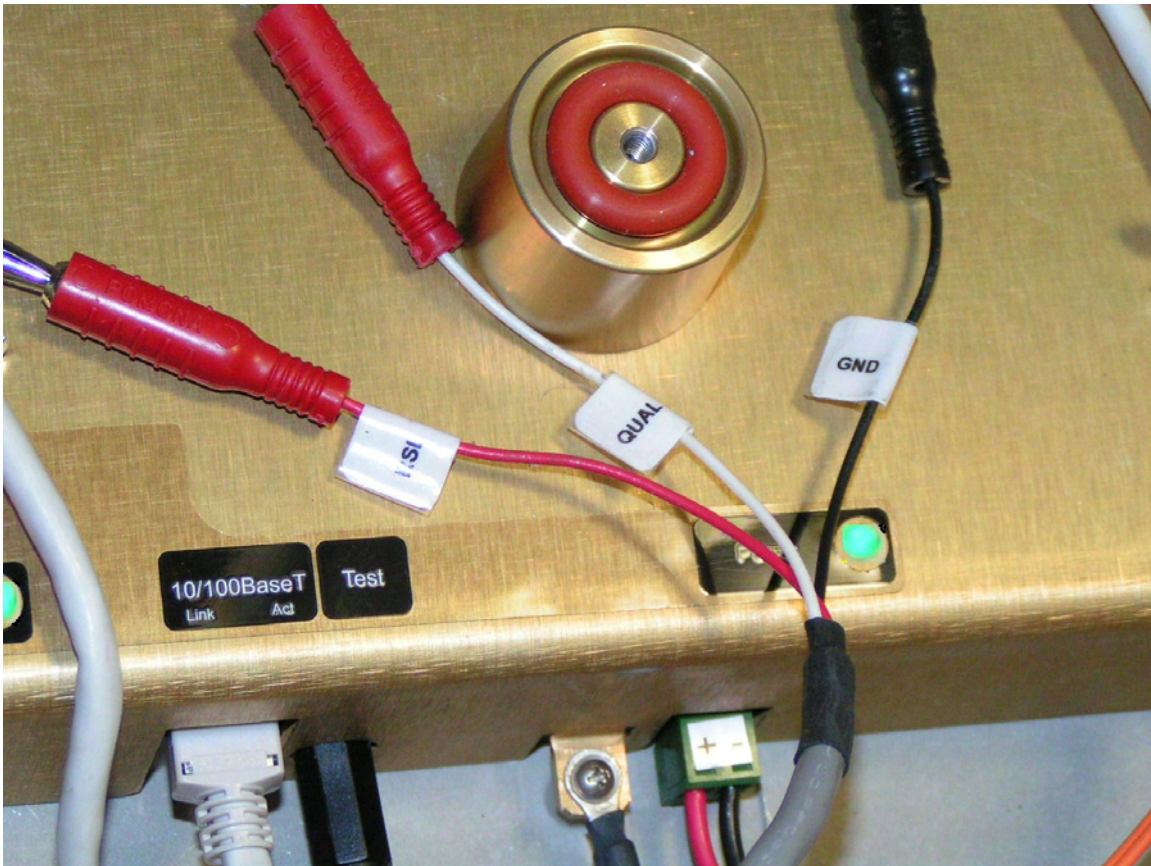

Figure 3-15: Top view of test cable provided to check Link Quality & Receive Signal level
If the 10/100BaseT port is permanently connected to other network equipment (not normally required), it should be connected using Cat5e cables rated for the outdoor and/or indoor environments where the cables will be run. It is essential that the cabling be connected to the radio unit through an Ethernet-rated surge suppressor inside of the plastic back cover of the unit, and a surge suppressor should also be used at the point where the cable enters a building or is connected to other outdoor equipment that does not already contain surge suppression hardware. BridgeWave recommends the **Dehn model DPA-M-CAT6- RJ45S-48** surge suppressor be used. See figure 3-15 below.
- i) See Figure 3-15 below to help guide you in obtaining the highest RSL voltage reading.
- h) If you have not obtained the “target” RSL voltage for the given path distance (or you want to further improve it), you will need to re-align the antenna, go back to the original site you started with and restart steps (a-f) and re-align again. See Figure 3-15 below of a conceptual illustration of an antenna beam to keep in mind while you perform a re-alignment.